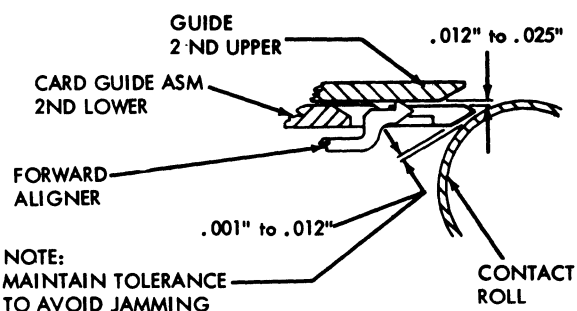

Figure 5-3. Punch Feed Read Card Guide Adjustments
2. Position second lower card guide for .001" to .012" clearance to contact roll. See Figure 5-3.